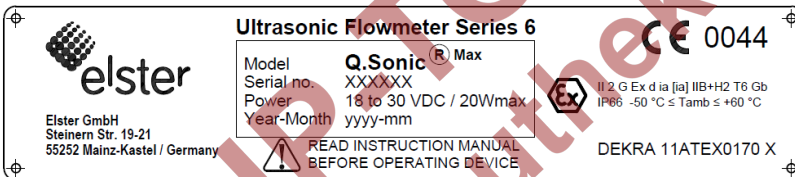
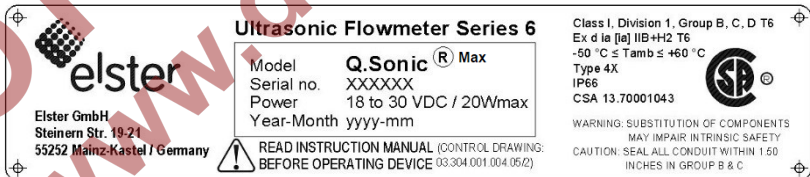

Figure 5-6: Example of an ATEX Label
Figure 5-9: Example of a CSA Label
- Refer to the type plate on the SPU for the applicable hazardous area approval. This could be according to ATEX, IECEx, FM or CSA. ⇒ Please refer to Figure 5-6 to Figure 5-9 for type plate examples for a Q.Sonicmax meter.